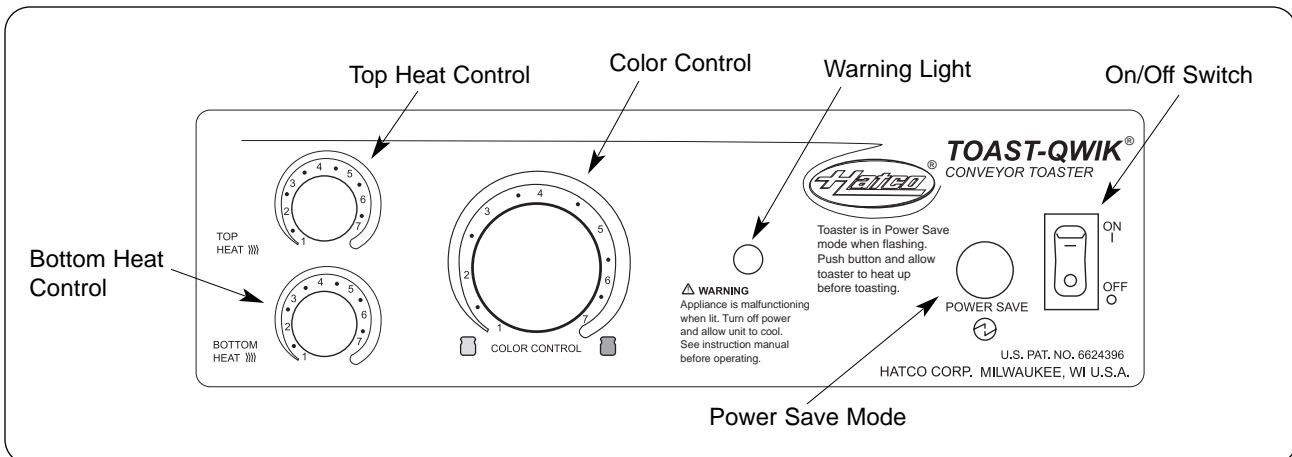
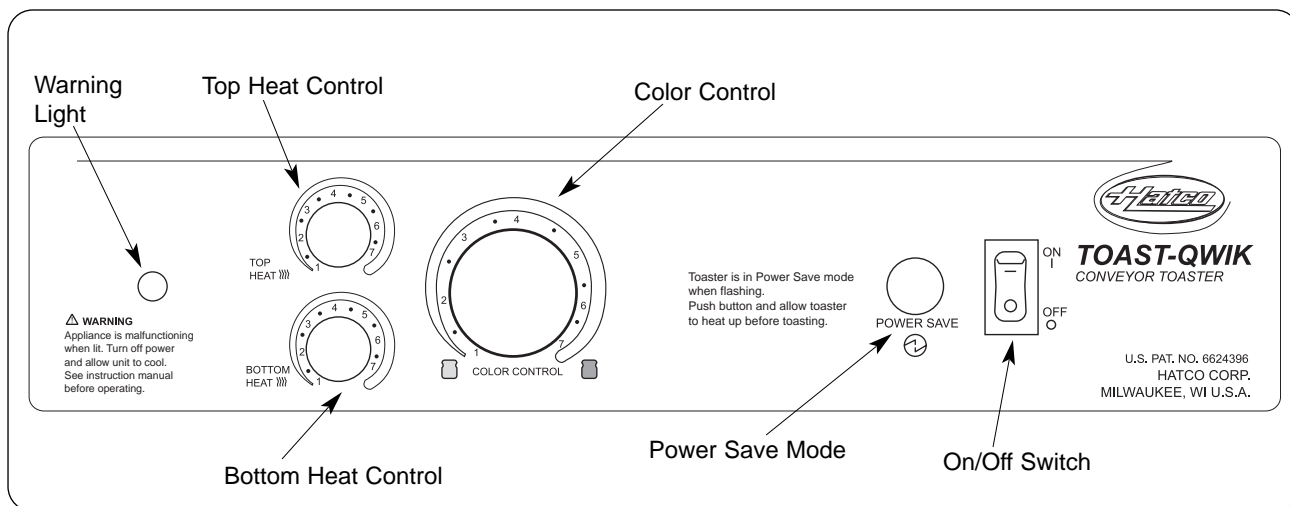

Figure 13. Control Panel – TQ-400, -800, and -1200 Series
Figure 14. Control Panel – TQ-1800 Models
2. Place the On/Off switch in the ON position. See Figure 13 for TQ-400, -800, and -1200 Series. See Figure 14 for TQ-1800 Series.
To activate press the POWER SAVE Mode button until the indicator light flashes. See Figure 13.